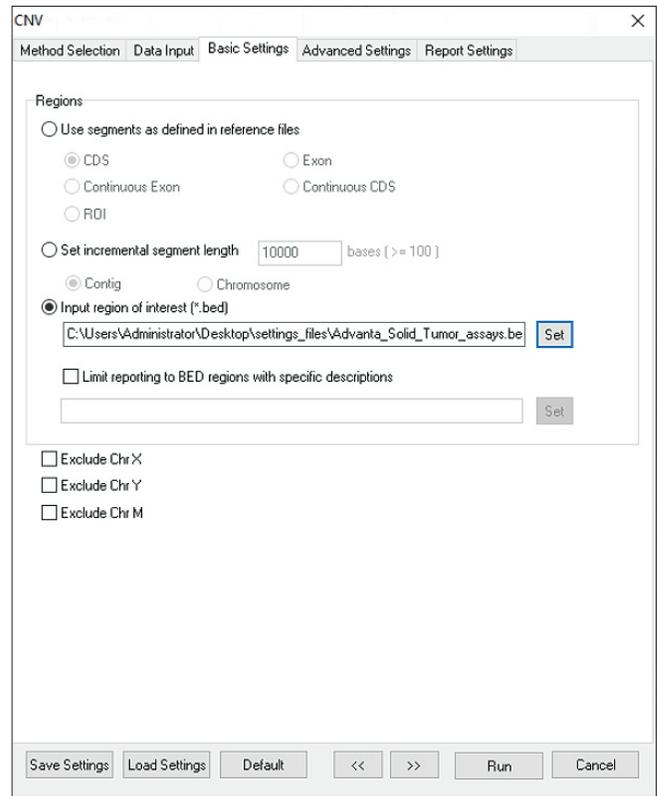

Figure 13. Basic Settings for CNV Tool
- 9 Click the Basic Settings tab and check that the Input region of interest path is set to the correct location of Advanta_Solid_Tumor_assays.bed, as in Figure 13.